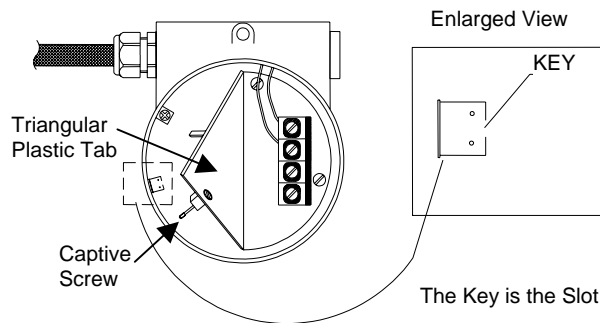

Figure 7
3. The connection for the small plug is located under the blue plastic terminal plate. Loosen the captive screw opposite the terminal strip and lift the triangular plastic tab (see Figure 7).
4. Plug the small connector into the black socket on the PC board (Figure 7 enlarged view).